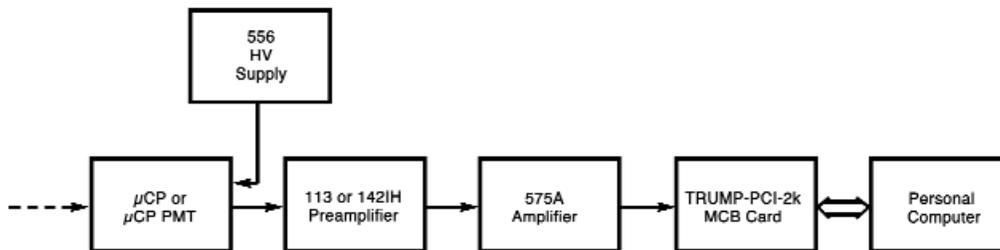
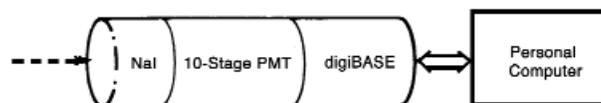

Fig. 3. Pulse-Height (Charge) Spectroscopy with a Microchannel Plate (μCP) Detector, or a Microchannel Plate Photomultiplier Tube (μCP PMT).
Fig. 4. Pulse-Height (Energy) Spectroscopy with a NaI(Tl) Scintillation Detector
Figures 3 through 10 show systems for pulse-height spectrometry with a variety of detector types. The following types are included:
- Microchannel plate detector (Fig 3).
- Microchannel plate photomultiplier tube (Fig. 3).
- Nal(Tl) scintillation detector (Fig. 4).
If nuclear or x-ray radiation is being detected, the pulse-height is usually calibrated in terms of the energy of the radiation. Hence the term “energy spectroscopy” is used. For other types of signal sources, the pulse height simply represents the charge deposited in the detector by the event. Consequently, the measurement process can be considered to be either “charge” or “pulse-height” spectrometry. In Figures 3 and 5 through 9, a preamplifier integrates the charge deposited in the detector, an amplifier shapes the pulses for pulse-height measurement, and a multichannel buffer (ADC plus memory) sorts the pulse heights into a spectrum (histogram of energy vs. counts). Figure 4 uses an integrated package complete